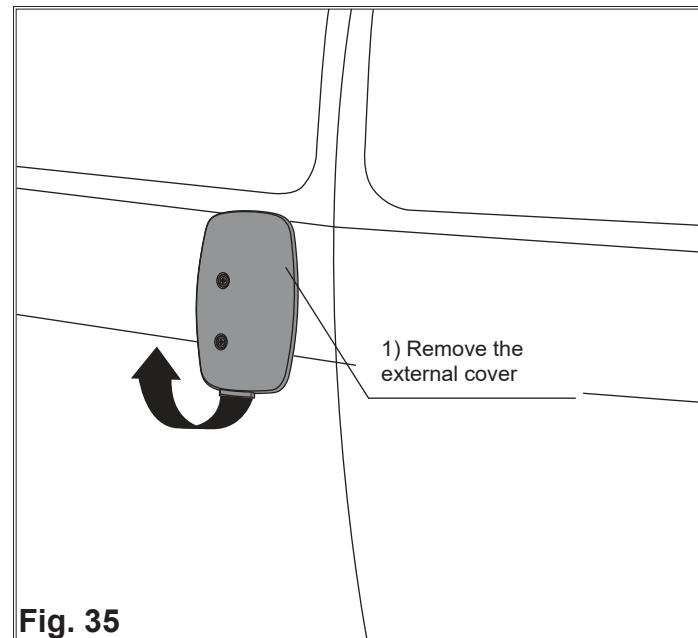

Fig. 35
1. Remove the cover, if present, (Fig. 35).